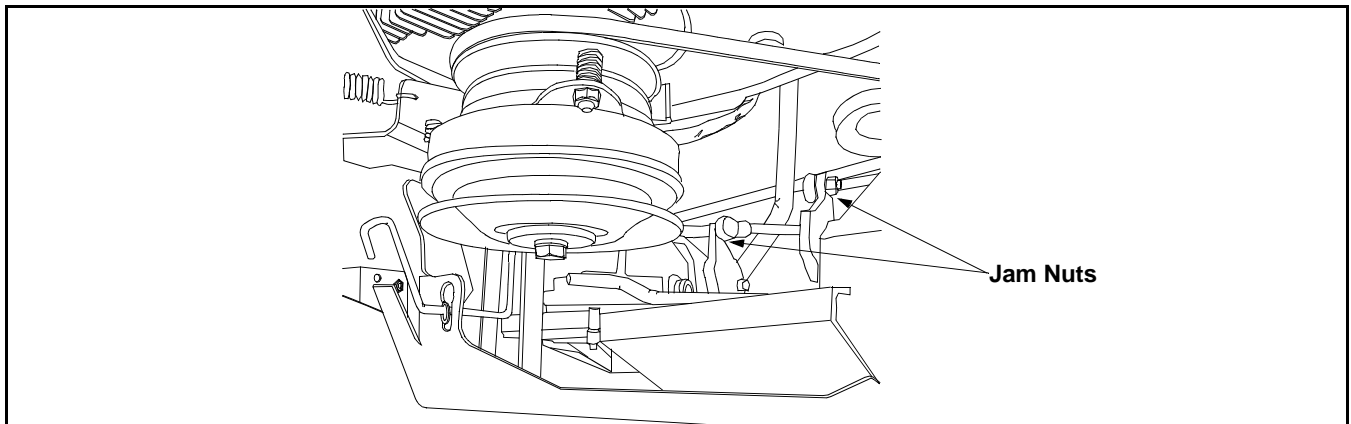

Figure 15
9. Remove bolts (A) that secure linkage to upper control handles and lower control arms. The shock absorbers should remain connected to linkage.
10. Insert quarter inch by seven inch pin or equivalent through the top and bottom alignment holes (B) of the control arms to secure arms at positive neutral. (Remove floor for access to lower holes.)
11. With the shock absorber still bolted to linkage, loosen the jam nuts (C) at both ends of the linkage so the alignaball adjustment can be made.
12. Adjust the alignaball (D) until retaining bolts slips through alignaball, and hole in arm, with little effort.
15. With quarter inch by seven inch pins still installed in the top and bottom linkage arms, loosen the jam nuts at both the front and rear (A) ends of linkage that runs from bottom linkage arms to hydrostatic pumps. (See Figure 15)